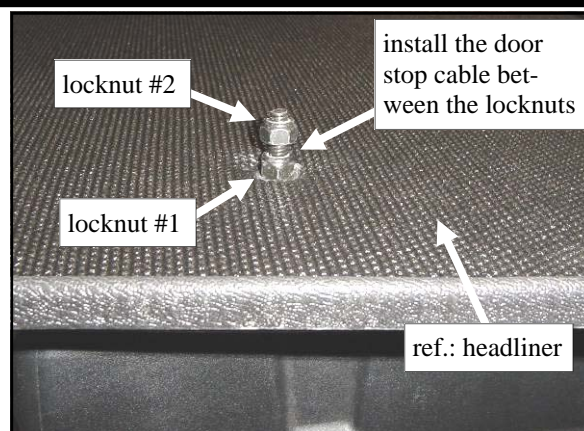

Fig. 3.4 (view of door stop cable bolt)
3.4 Per fig. 3.4, install the bolt for the door stop cable (one per side of roof, 6" in from outer edge) as shown. Use the following hardware per side: one 5/16-18 x 1 1/4" long button head bolt, two steel washers, one plastic washer, and two locknuts. With the roof still oriented as shown (with the headliner up), install one steel washer and one plastic washer on to the bolt. Feed the bolt up from the bottom side, through the sheet metal and through the foam headliner. Install the second steel washer and one locknut. Tighten the locknut (locknut #1 in figure 3.4). Install one end of the door stop cable onto the bolt. Install the second locknut, but do not tighten it up against the door stop cable. There should be a small intentional gap so the cable can rotate freely. Repeat in the last remaining roof hole.